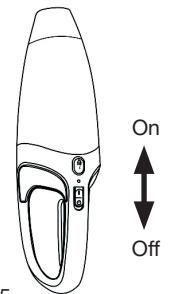

Figure 5
3. Set the on/off switch to position "I" (on) to turn the vacuum cleaner on (Fig. 5).
4. When you have finished vacuuming, move the on/off switch to position "0" (off) and replace the appliance on its base to charge the battery and get it ready for the next time it is needed (Fig. 5).